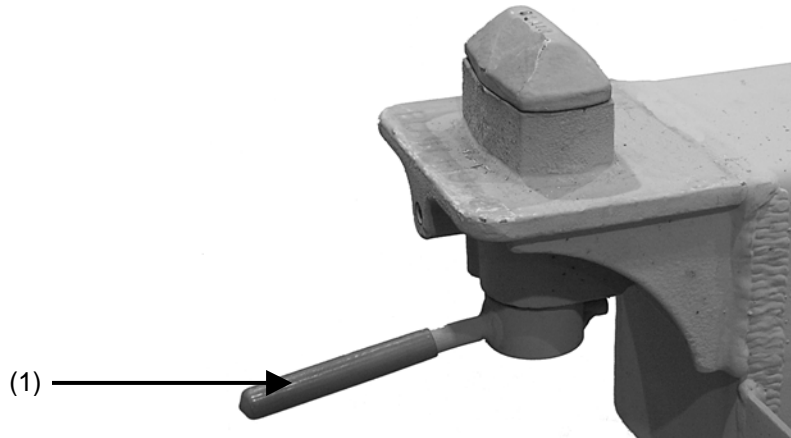

Figure 4-71. Flat rack lock.
1. Unlock flat rack from container at two front ISO corners by rotating lock handles (1) 90° (Fig. 4-71).